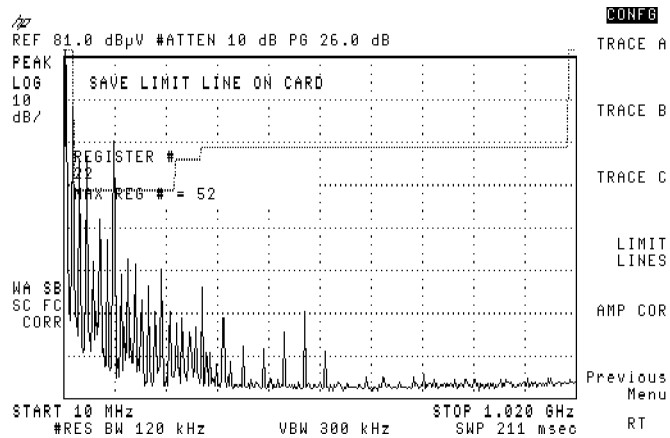

Figure 3-75. INTERNAL TRACE Softkey Screen
- Press 22, **ENTER** (same as the **Hz** key in the analyzer's lower-right corner) to save the limit lines to internal register 22. See Figure 3-75.